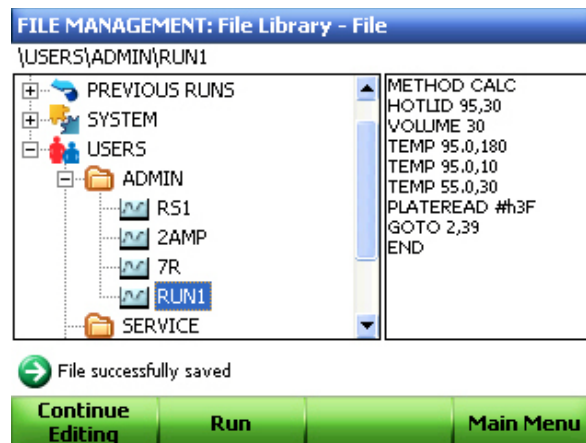

Figure 42. Protocol successfully saved.
5. Click **Run** (F2) to continue and run the protocol (Figure 42).